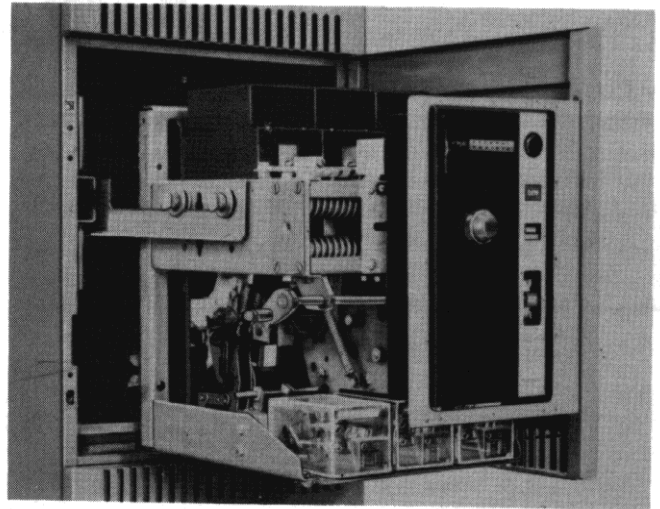

Figure 7
8. Place breaker **on** fully extended **moveable** rails. Make **sure all** four rollers **engage on** inside grooves (Outside grooves fit into stationary rails inside cell). (Figure 7).